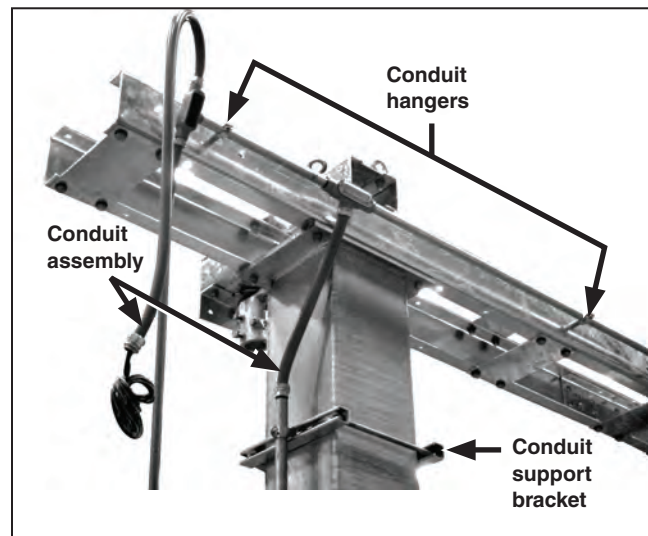

Figure 44. Set the conduit assembly into the conduit hangers and fasten in place. (Pole-units and drive train are not shown.)
STEP 3. Set the conduit assembly in the conduit hangers, and fasten it in place with the hardware reserved from Step 2. The conduit should be attached to the switch base in accordance with the reference drawing, with the conduit directed down the pedestal to the switch operator. See Figure 44.